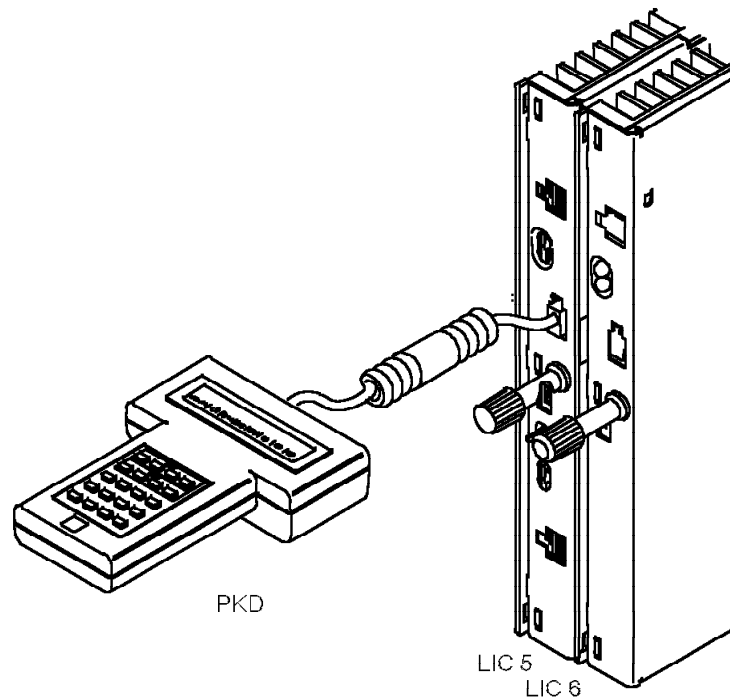

Figure 9-3. IBM 5869 Portable Keypad Display (PKD) plugged to a LIC5 or a LIC6.
- To check the lights, plug in the PKD (refer to Figure 9-3 on page 9-39 for connection); press the **Go** or **Stop** key; then the green and yellow lights should be on.